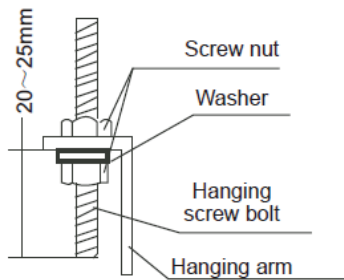

Fig. 15 — Locate the Hanging arm
3. Locate the hanging arm on the hanging screw bolt (Fig. 15).